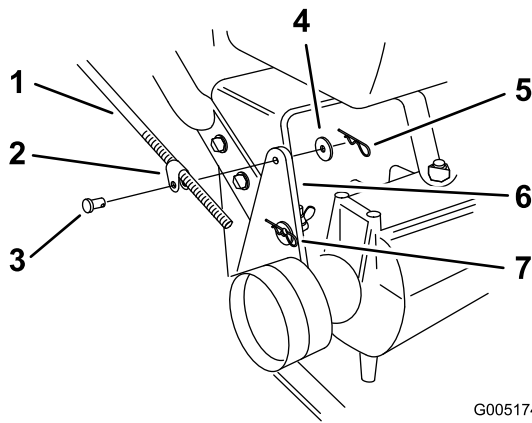

Figure 41
2. Check the operation. If adjustment is required, remove the hairpin cotter, washer, and clevis pin securing the control rod fitting to idler bracket (Figure 41).